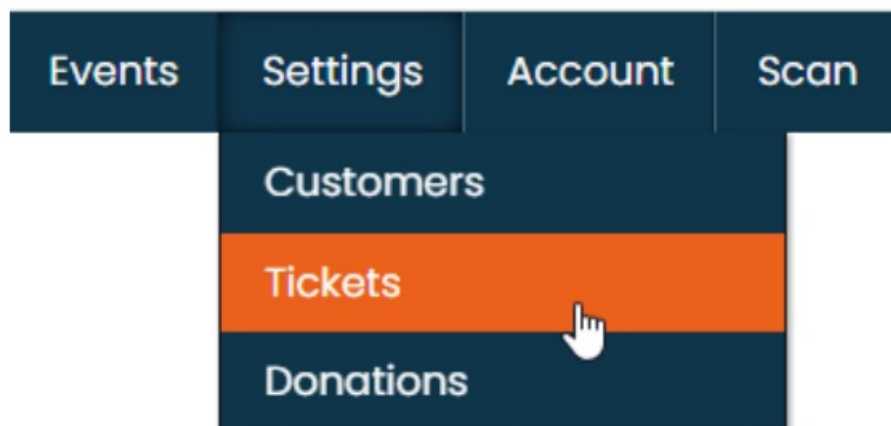

Figure 1: Ticket settings
- select the “Settings” menu and click the “Tickets” menu option (figure 1).